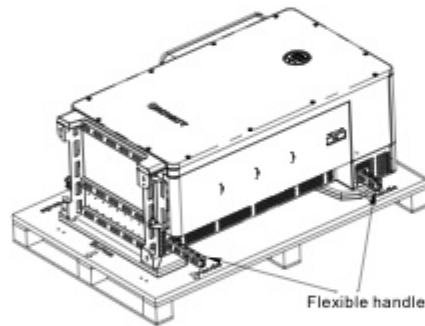

Fig 5.8 Lifting the WIT inverter
- 1> Unpack the WIT Inverter (remove the top panel and the support plates) and pull out the handles, as shown in Fig 5.8 below. It requires four people to lift the WIT Inverter and move it to the installation position;